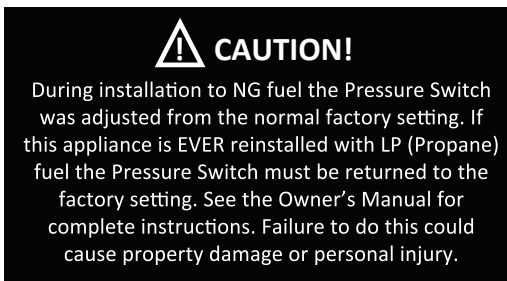

Fig. 35 – Caution Sticker
7. When the Pressure Switch set point is adjusted the appliance may not work properly if the unit is ever reinstalled on LP (Propane fuel). The “CAUTION” sticker (Fig. 35) is supplied in the hardware kit. You must install the “CAUTION” sticker on the appliance (Fig. 36).